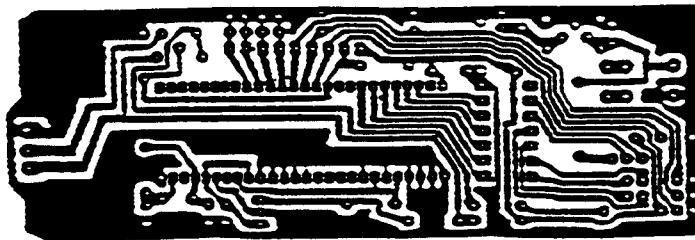

Figure 16
2. Locate Central Processing Board. (*Figure 16*)